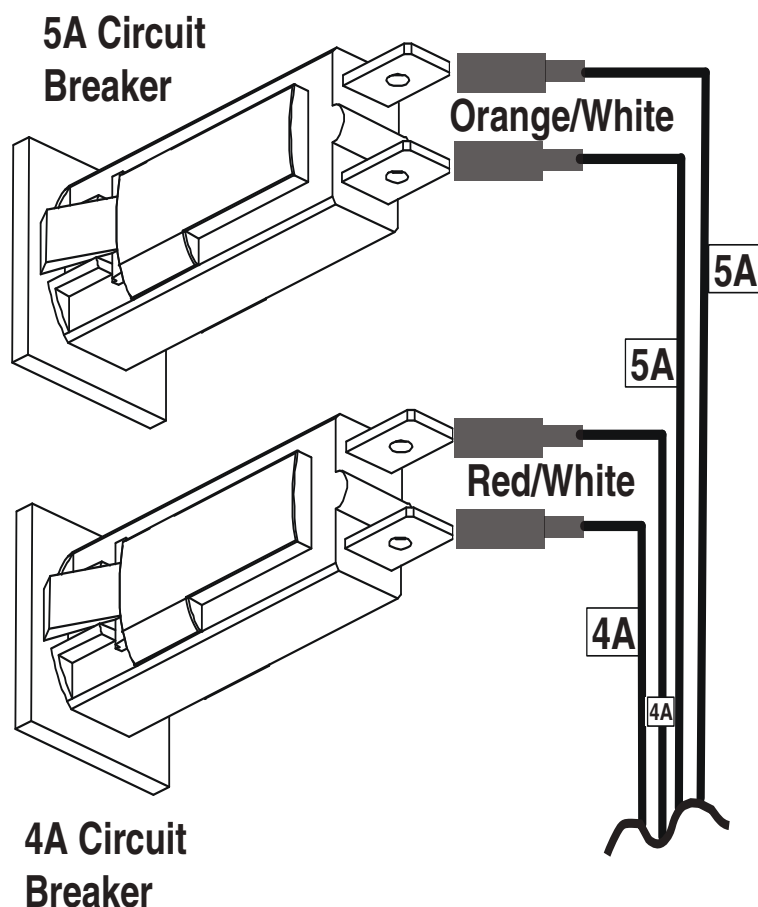

Figure 5. Circuit Breakers Transformer Connections
**Install the IntelliCenter Control System 5AMP (P/N 522339) and 4 AMP (P/N 522338) circuit breakers:** See Figure 5 on page 7
6. Insert the circuit breaker plug (4) (P/N 521090) into the bracket opening under the 5A breaker.
7. Place the new circuit breaker label (5) (P/N 522337) over the existing label on the front of the bracket.
3. **Connect Circuit Breaker Wires:** Connect both Orange/White wires from the System Transformer Orange/White to the 5A circuit breaker terminal, and both Red/White wires to the 4A circuit breaker terminal. See Figure 5.